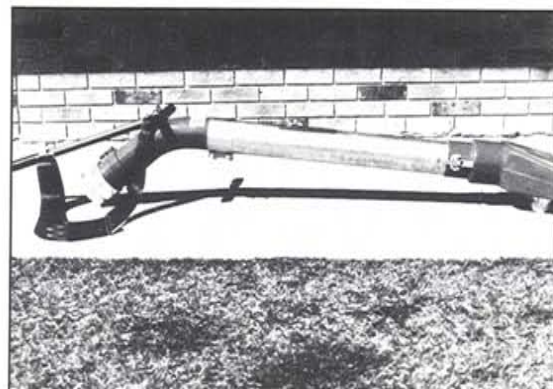

Figure 54
- 1 - 5" Cleanup Nozzle (see figure 54)